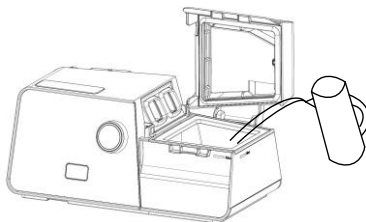

Fig. 14-4
(2) Open the cap, and fill the water chamber with approximately 360 mL of water, as shown in Fig. 14-4. Make sure that the water does not exceed the maximum water level line.